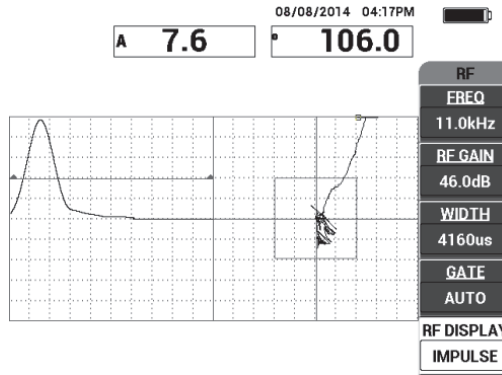

Figure 6-6 The IMPULSE display
6. If preferred, set the **RF DISPLAY** (E key) to **IMPULSE** (see Figure 6-6 on page 135). However, it is recommended to use the **RF DISPLAY** mode because it allows easier interpretation of each signal oscillation.